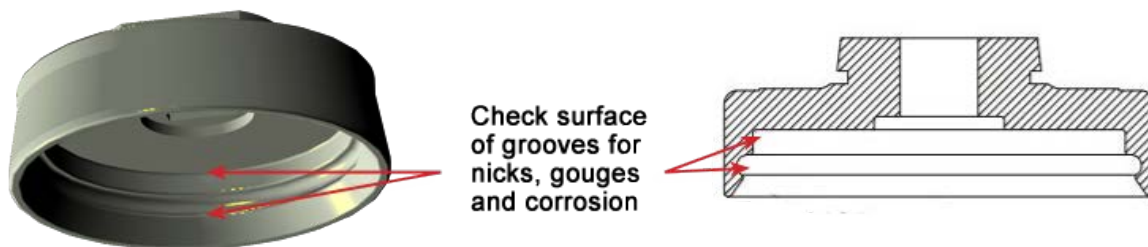

Figure 4-4 O-ring Retainer Grooves (A-35000 body shown)
4.1.4.1 The grooves (Figure 4-4) must be free of gouge marks, corrosion, pits and rust. Since the O-rings must seal against these surfaces, any irregularities can cause the valve to leak. Clean the groove by sanding it lightly with emery paper (400 grit). If this does not effectively clean the groove, replace this part.